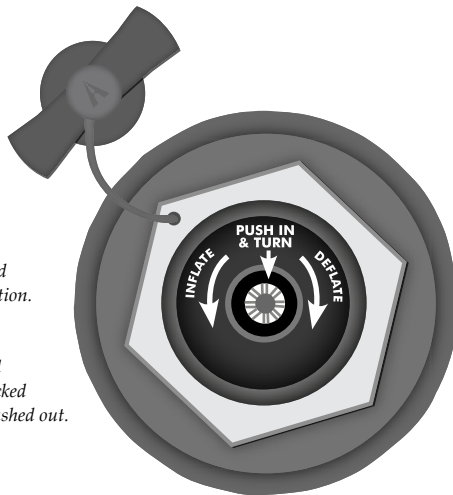

Figure 1. Inflate/Deflate Spring Valve
1. Partially inflate chamber 1 until the kayak begins to fill out or appears to be half way inflated then close cap. Check to be sure the valve is in the inflate position (*See Figure 1*).
Use either a bellows style foot pump or two-way hand pump to inflate to your kayak. Be sure that the fitting on the pump hose fits snug in the valve on the kayak. **NEVER USE COMPRESSORS, CO2, OR COMPRESSED AIR AS THEY MAY DAMAGE YOUR KAYAK.** The main chambers use high-end military style, plunger valves (See Figure 1).
2. Push stems inward and rotate to deflate position (See Figure 1).